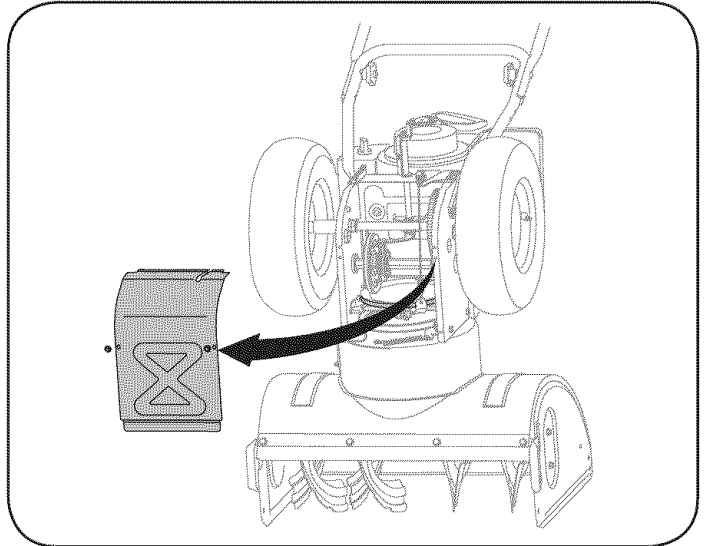

Figure 23
5. Remove the frame cover from the underside of the snow thrower by removing four self-tapping screws which secure it. See Figure 23.
- Remove the frame cover from the underside of the snow thrower by removing four self-tapping screws which secure it. Refer to Figure 23.